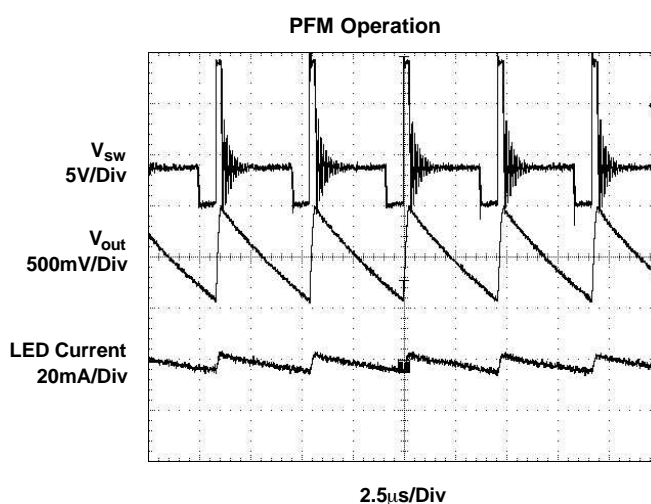
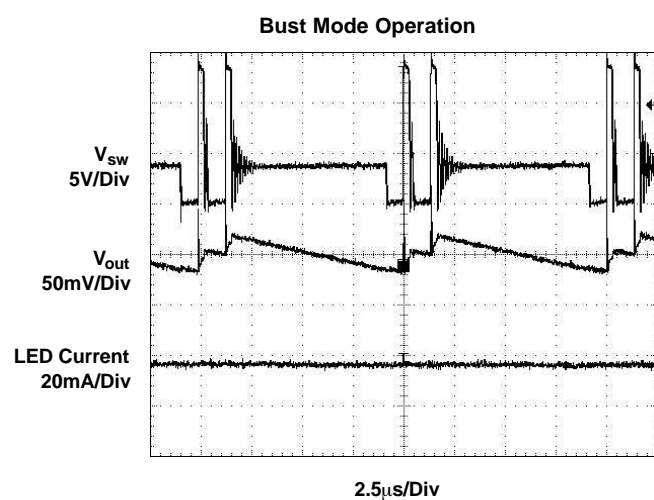

Figure 13.
Figure 14.
If the converter can support the desired LED current, the next step is to calculate the converter switching frequency at the operation point, which must be ≤ 1 MHz. Also the converter switching frequency should be much higher than the applied PWM frequency at the CTRL pin to avoid non-linear brightness control. Assuming the converter shows no double pulses or pulse bursts (Figure 13 and Figure 14) on the switch node (SW) the switching frequency at the operation point can be calculated as:
Assuming the converter does not show double pulses or pulse bursts (see Figure 13 and Figure 14) on the switch node (SW), the output voltage ripple is calculated as: